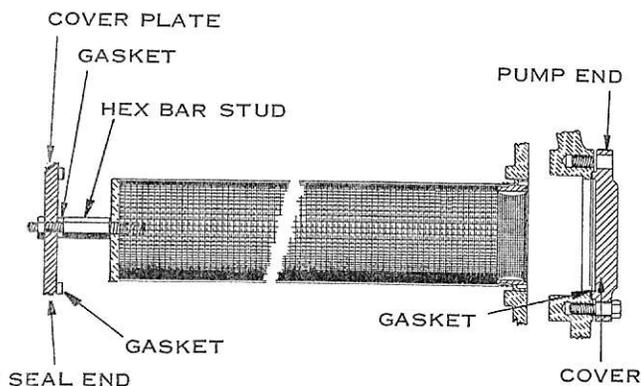

FIG. 30—Suction Strainer
tion plenum, at the oil pump end of the compressor just under the strainer cover plate. (See Fig. 30.)
- Remove the suction strainer screen cover plate on the oil pump end of the compressor and the nut from the stud in the cover at the shaft seal end (See Fig. 30.)
If a new strainer screen is to be installed, remove the threaded stud from the old screen and transfer it to the new screen. Use a new gasket on the stud and be sure to draw the nut tight to prevent leakage. (See Fig. 30.)